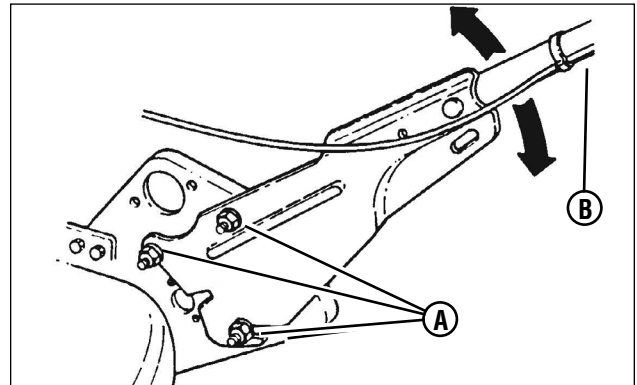

Figure 6: Adjusting the handle height
1. Loosen the lower nuts (**A**, **Figure 6**) on each lower handle.